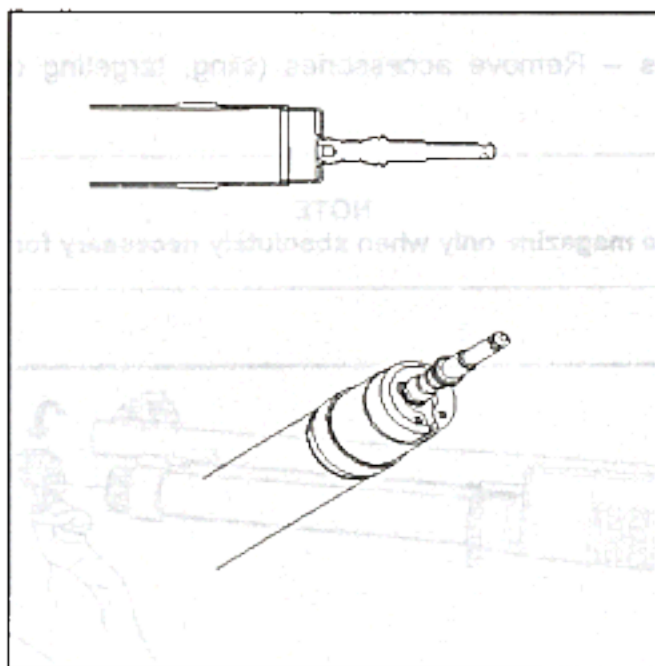
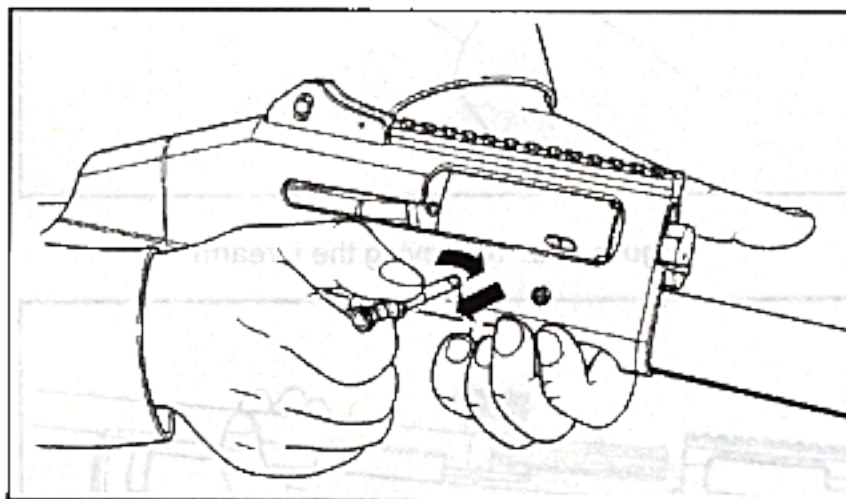

Figure 15. Magazine spring seal removal
Figure 17. Removing the bolt handle from the bolt group
5. **Remove magazine components** – Remove handle from bolt group (**Figure 17**). Use the bolt handle to remove the magazine spring seal ring, the magazine spring, and follower from the magazine tube (**Figure 15**).
7. **Remove bolt** – Grasp the bolt handle and pull it out of the bolt carrier by pushing in and rotating it. Remove the bolt group from the receiver (**Figures 17 and 17a**).